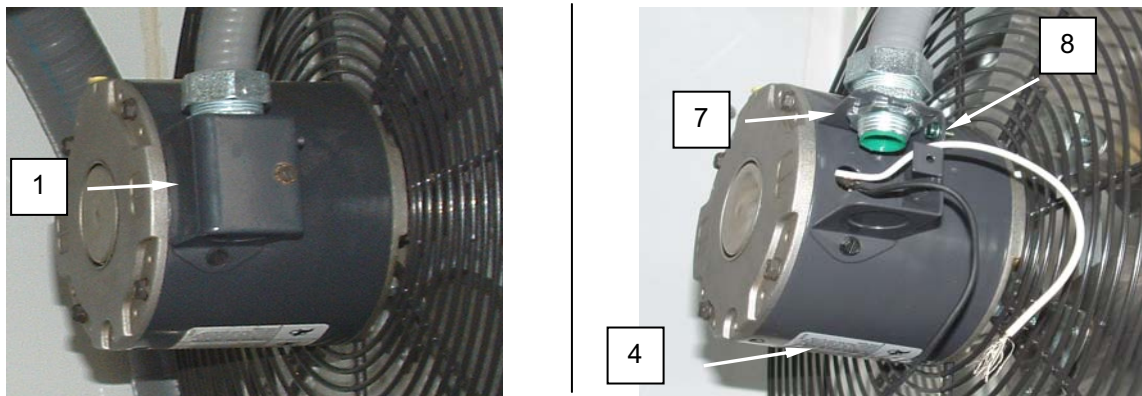

Figure 3. Replace the Exhaust Fan.
2. Remove screws retaining junction box cover (**Figure 3, Item 1**) and remove cover.
3. Tag and disconnect wiring from fan (**Figure 3, Item 4**). The wiring may need to be cut.
4. Remove conduit locknut (**Figure 3, Item 7**) and remove conduit from junction box (**Figure 3, Item 8**).
7. Remove screws retaining junction box cover (**Figure 3, Item 1**) from replacement fan (**Figure 3, Item 4**) and remove cover. If necessary, punch out the junction box penetration on the replacement fan.